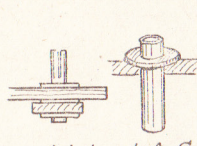

Fig. 4—Fixing joints and pointer
Stanchions can also be made of twisted wire, as in Fig. 4. Naval type by filing nicks in brads and soldering the wire across as in Fig. 5.
Figs. 4 and 5—Brads for naval type
The joints at (A), (G) are shown in Fig. 4, the left side illustration depicting a side view of the joints and next to it a detail of their construction. For each a $1\frac{1}{4}$ in. piece of brass tubing will be needed, with an internal diameter of $\frac{1}{4}$ in. or $\frac{5}{16}$ in. To each piece of tubing, three thin metal washers will be required.
end, filed to a blunt point. It is shown in Fig. 4.